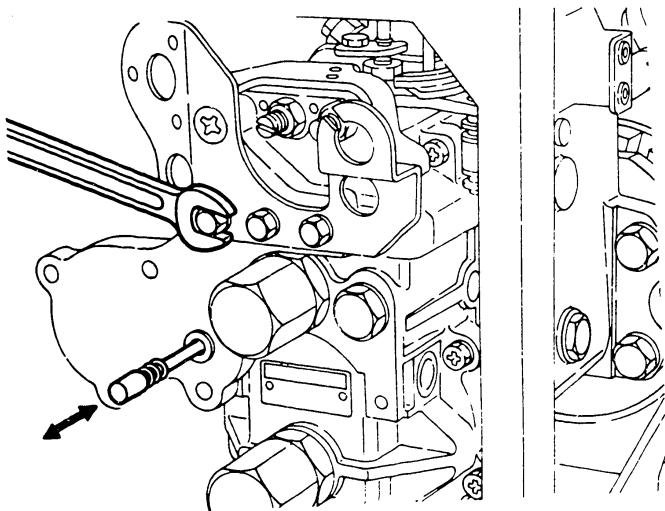

Fig. 162 Checking pushrod movement
1. Install the spacer (1A) on the governor cover, and ensure the pushrod can move smoothly. (Fig. 162)